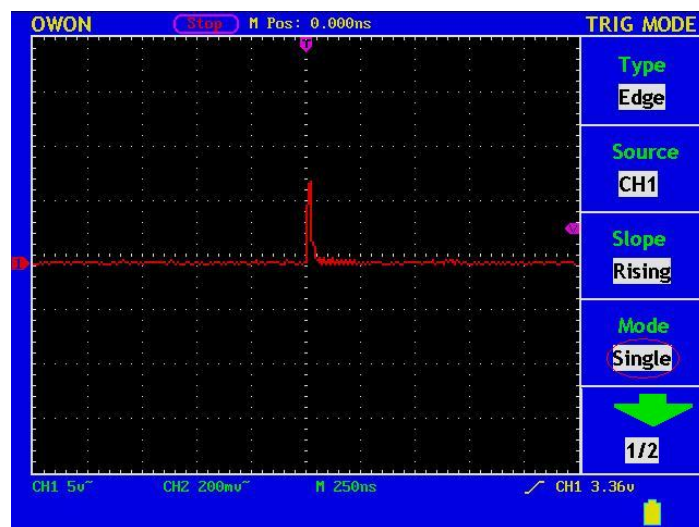

Fig. 58 Capture the Single Signal
10. If the **Trigger State Indicator** at the top of the screen does not indicate **Ready**, push down the **RUN/STOP** button and start **Acquire**, waiting the emergence of the signal in conformity with the trigger conditions. If a signal reaches to the set trigger level, one sampling will be made and then displayed in the screen. With this function, any random occurrence can be captured easily. Taking the burst burr of larger amplitude for example, set the trigger level to the value just greater than the normal signal level, and then press the **RUN/STOP** button and wait. When there is a burr occurring, the instrument will trigger automatically and record the wave form generated during the period around the trigger time. With the **HORIZONTAL POSITION** knob in the horizontal control area in the panel rotated, you can change the horizontal position of the trigger position to obtain the negative delay, making an easy observation of the waveform before the burr occurs (see Fig. 58).